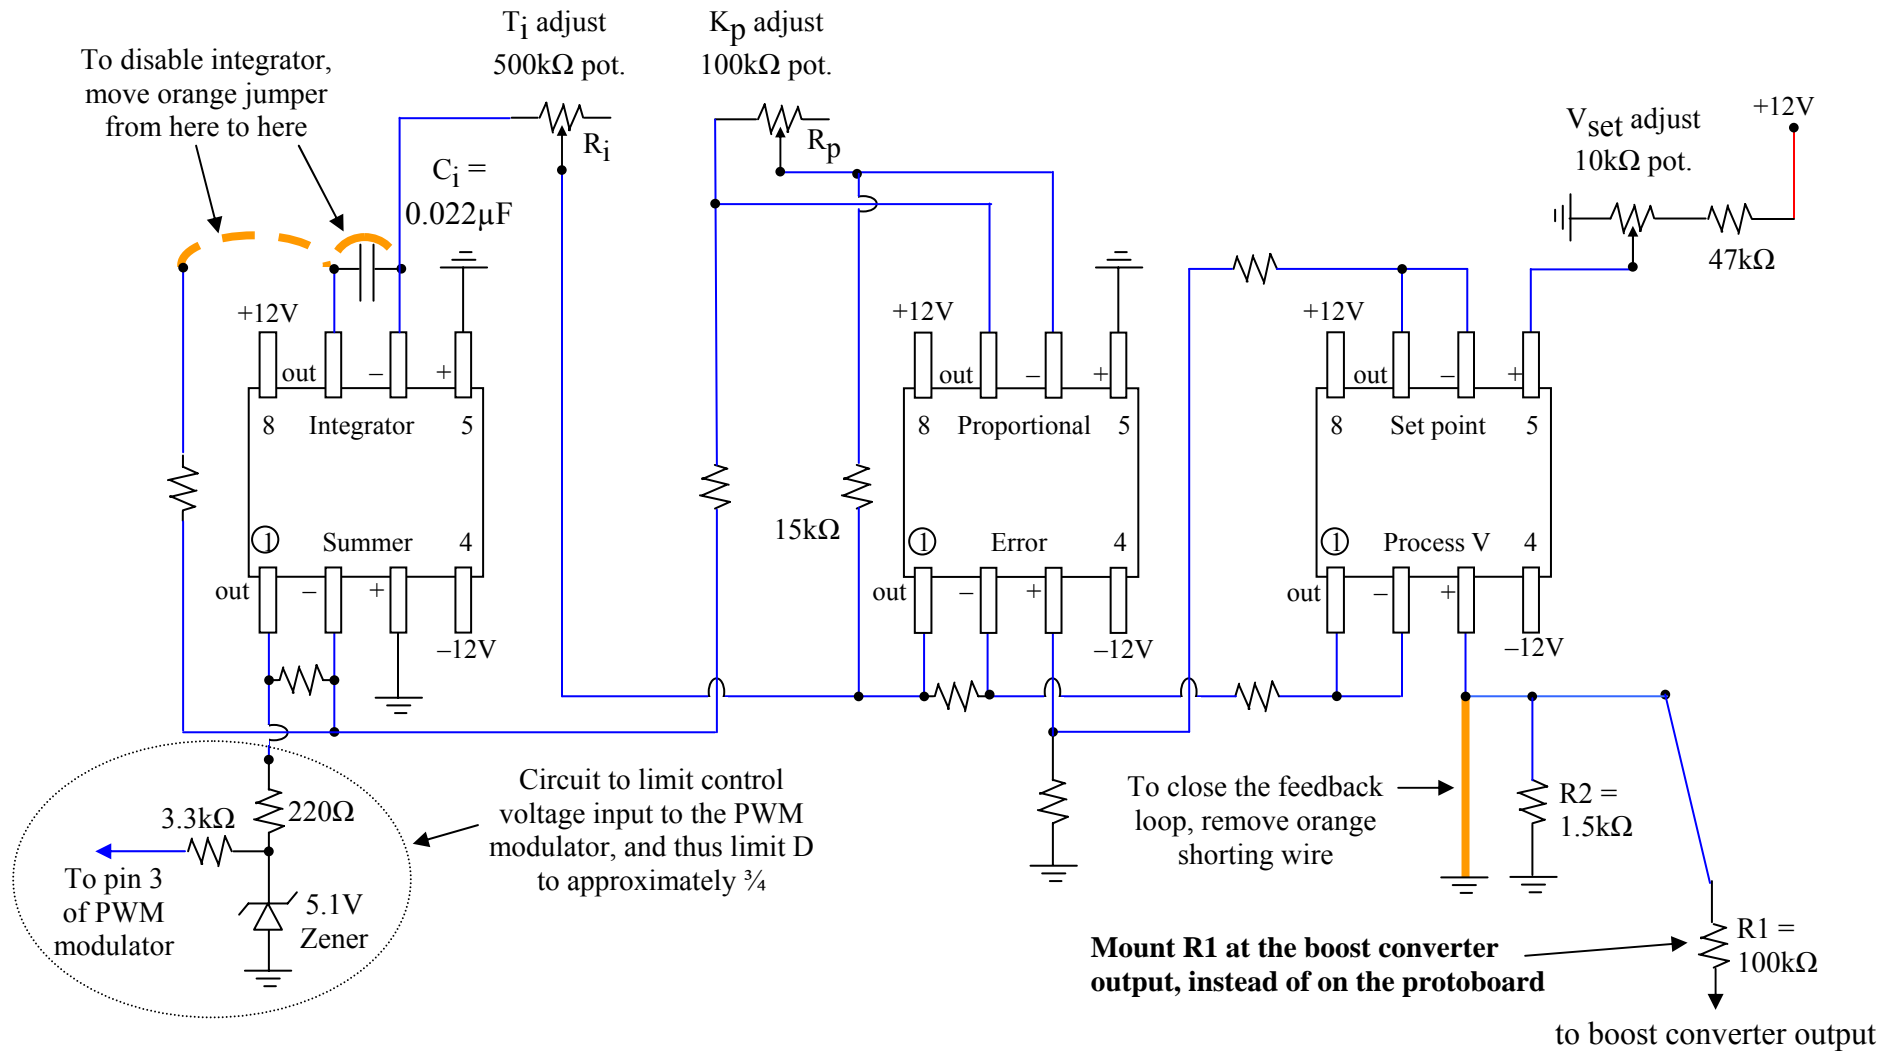
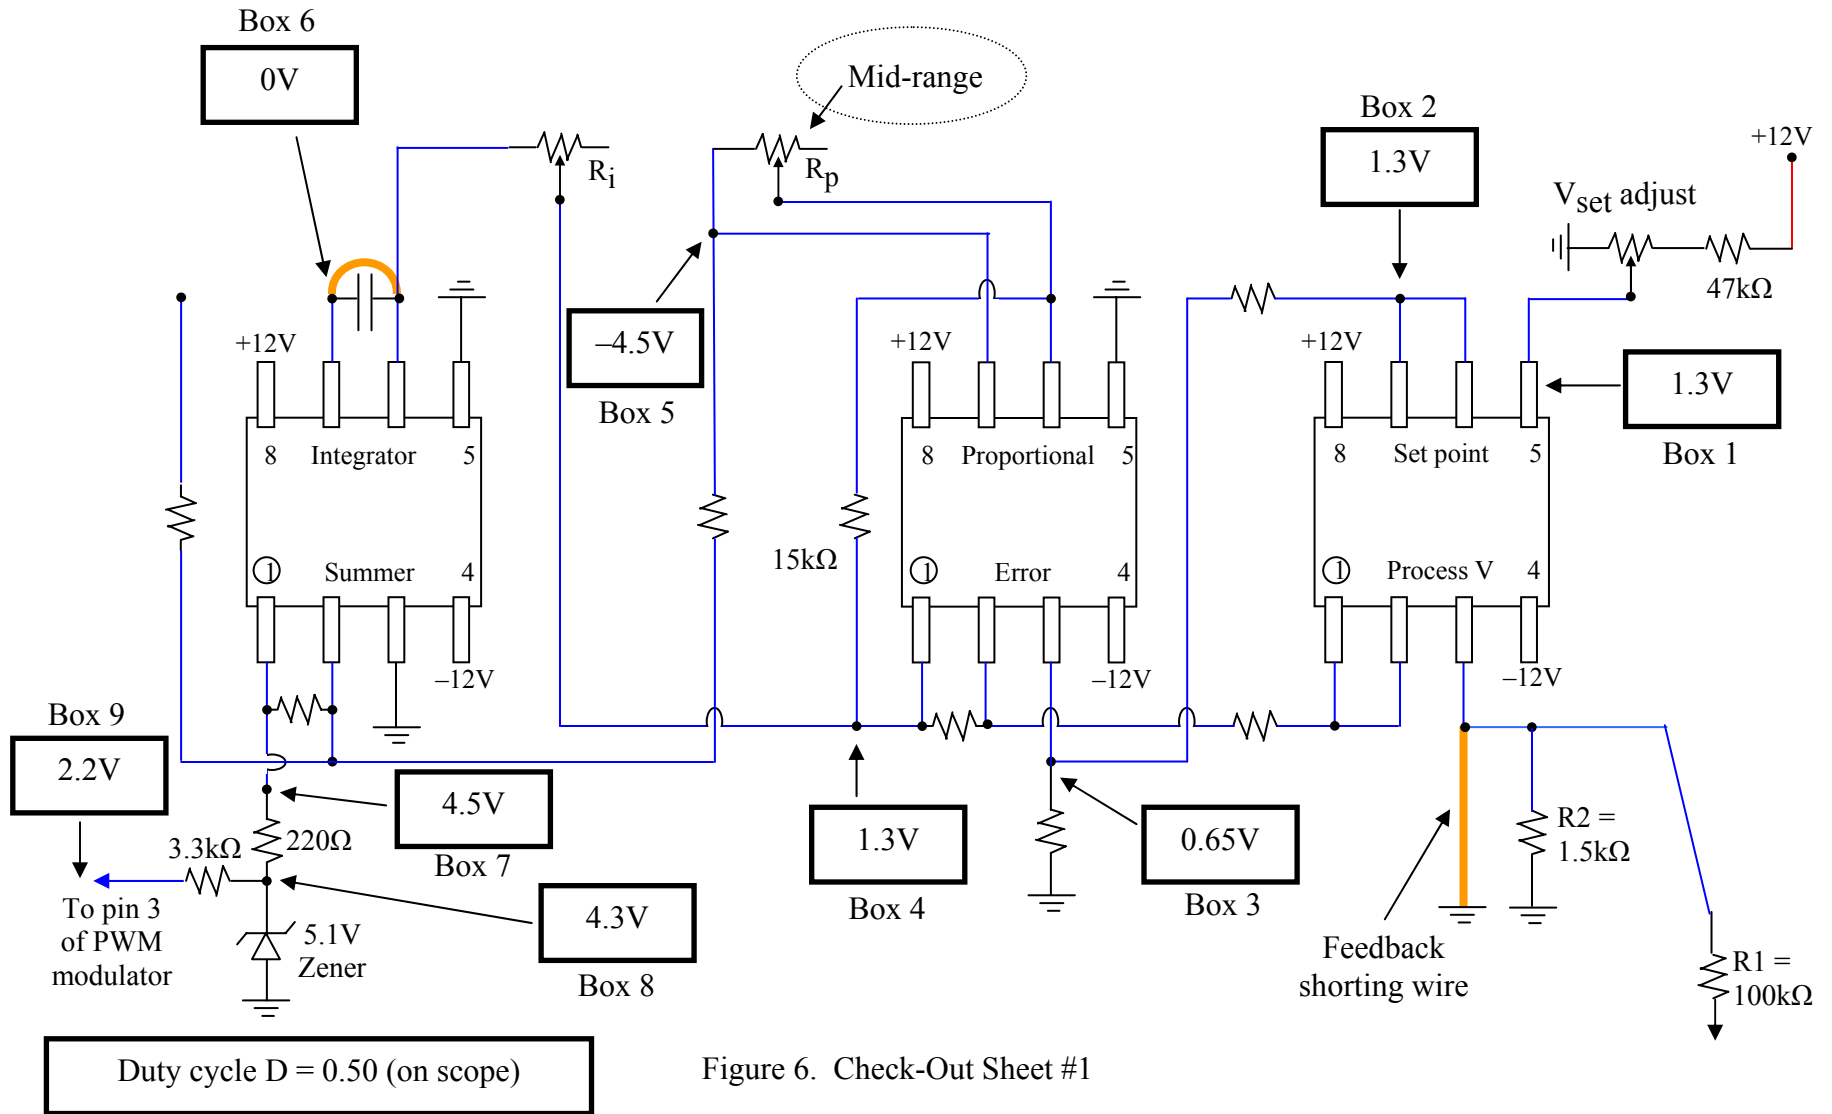

Figure 4. Circuit Layout for PI Controller
Figure 6. Check-Out Sheet #1
The op amp implementation of Figure 3 is expanded with component values and connection details in Figure 4. The op amps will be powered by a 2W dual output DC-DC converter chip, 12Vdc input, isolated ± 12 Vdc outputs. Details for the dual output converter and its socket are shown below.
2. Add the circuit in Figure 4 to the 6" protoboard. **Do not yet apply wall wart power.** Connect the ground of the firing circuit to the ground of the PI controller. The 100k Ω feedback resistor (R1 in Figure 4) should be attached directly to the converter output, with a blue wire then run from R1 to the 6" protoboard. **Do not put R1 on the protoboard – that would bring high voltage to the protoboard! Do not yet energize the converter with a DBR.**
3. Disable the integrator by **moving the integrator jumper** as shown in Figure 4.
4. Open the feedback loop by **connecting the feedback shorting wire** shown in Figure 4.
8. Using a multimeter, with ground as the reference, adjust the V_{set} potentiometer in Figure 4 so that $V_{set} = \frac{R2}{R1 + R2} \cdot V_{target}$, where V_{target} is the desired converter output voltage (i.e., a target of 90V will require $V_{set} \approx 1.3V$)
9. Visually adjust R_p in Figure 4 to mid-range. Then, take and compare voltage measurements to those shown in Boxes 1 – 4 of Figure 6 (Check-Out Sheet #1). Your voltage readings should match within one or two tenths of a volt. Next, using an oscilloscope, adjust R_p to obtain $D = 0.50$. Then, take and compare voltage measurements to those shown in Boxes 5 – 9 of Figure 6.
If you have any significant readings from those in Figures 6 and 7, see Dr. Kwasinski or the TAs before proceeding.
11. Unplug the wall wart. Connect the MOSFET firing circuit with PI controller to a boost converter. Bring a blue wire from the 100k Ω load feedback resistor R1 (in Figure 4) to the PI controller. The feedback shorting wire remains in place.
14. Now, set the net open loop gain to unity by slowly adjusting R_p until V_{out} is 90V. D should be approximately 0.62. Turn off the DBR. Take voltage measurements for points corresponding to Box 4 and Box 5 in Figure 6. The gain of the proportional op amp is the quotient V_{Box5} / V_{Box4} . Define this quotient as KP1. KP1 corresponds to an open loop gain of unity, and it will be used in a later step.
- Sweep R_p through its range, from max to min. Then, starting at the max value of R_p , lower R_p until oscillation ceases or, at least, is small. Note - R_p should be about one-half to two-thirds of its full range. Now, reduce R_p to about 1/2 of that value. Turn off the DBR. Take voltage measurements for points corresponding to Box 4 and Box 5 in Figure 6. The new gain of the proportional op amp is the quotient $V_{\text{Box5}} / V_{\text{Box4}}$. Define this quotient as $KP2$. Gain K_p in (A8) is now the ratio of $KP2$ to the previous $KP1$. Expect a value of about one-third.